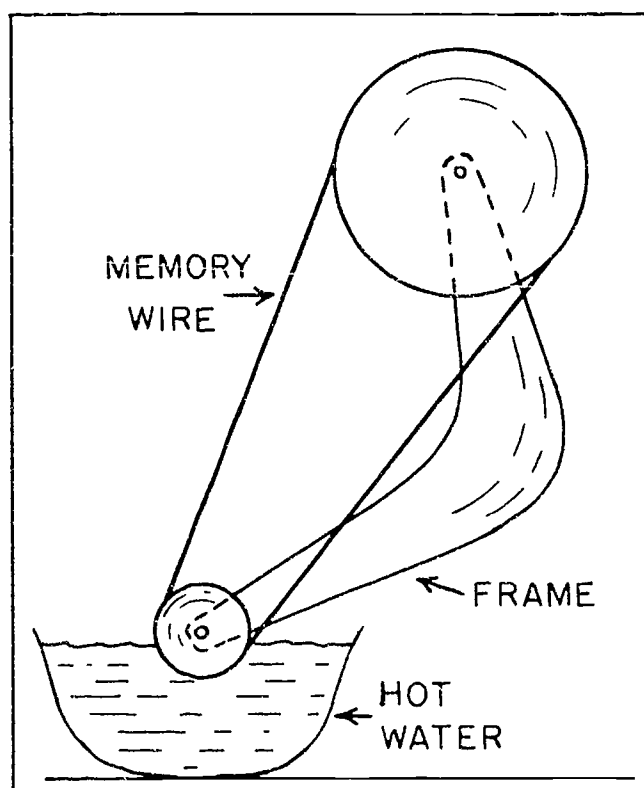

Fig. 1. Schematic diagram of the toy heat engine "Thermobile."
Fig. 1. Upper left, the physical form of the stud locator. Center, block diagram of the electronic units. The train of pulses from each MV is indicated. The feedback loop that makes the initial calibration is shown at the top. The capacitor plates, with an electric field line traversing the stud are shown schematically; actually their shape is a little more complicated.
We had best start by considering the stud, in the schematic diagram in Fig. 1. The property of the stud that
2. A multivibrator (MV) used to be wired up out of a couple of transistors, some capacitors and resistors; now it is purchased as a chip. It can be made to operate in the *one-shot* or the *free-running* mode. In the one-shot mode, when triggered by an input pulse, it produces one output pulse and waits for the next trigger pulse. The shape (especially the length) of the output pulse is determined by the resistors and capacitors of the MV, not by the height or length of the trigger pulse. It has terminals to which an external capacitor and/or resistor can be connected, to make the length of the output pulse any value desired. In Fig. 1, MV2 and MV3 are one-shot. The other mode in which an MV can be operated is free-running. MV1 in the figure is free-running. It requires no external trigger. It triggers itself, putting out a succession of pulses. The repetition rate can be made any value desired (in our case 7 kHz), by an externally attached resistor and capacitor.
Fig. 1. a. Side view of one of the boat tanks in the up position.  $G_1$  and  $G_4$  are the gates at fixed height;  $G_2$  and  $G_3$  are the gates on the tank. At S there is a water-tight packing gland surrounding the piston.
temperature is raised above a certain threshold. For example, a piece of the wire, manufactured straight, may be quite flexible at room temperature ( $23^{\circ}\text{C}$ ) but, upon being heated to  $50^{\circ}\text{C}$ , will straighten itself, exerting some force in doing so. That property makes possible the little heat engine shown in Fig. 1. A piece of such wire (manufactured straight) is in the form of a loop, around two pulleys. The lower pulley (about an inch in diameter) is partially immersed in a cup of hot water. The engine must be given a start, which can be in either direction. The power that runs it comes from the strong internal straightening force in the